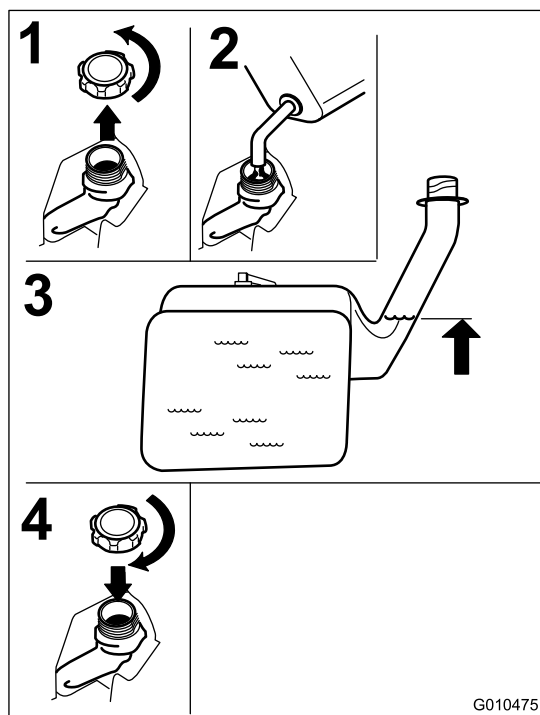

Figure 12
2. **Slowly** add regular, unleaded gasoline until the fuel reaches the base of the filler neck Figure 12.